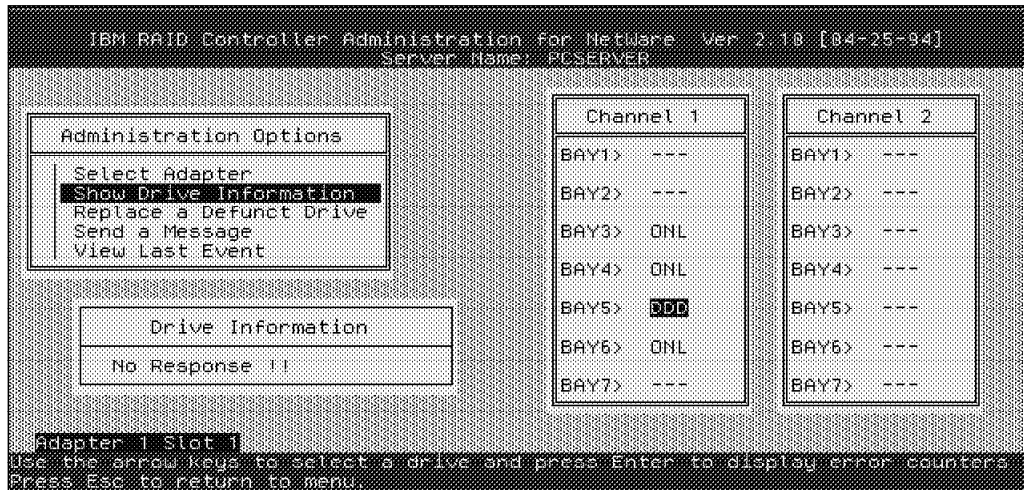

Figure 123. Changes in Array Configuration
6. Select **Show Drive Information** to review the changes in the array configuration. A screen like the one in Figure 123 on page 158 will appear.